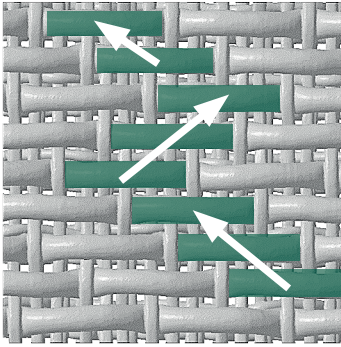

FIGURE 5. TruTrac: Balancing the twills
**Solution:** Break the twill pattern and even out the protruding knuckles. AJ has a patented innovation called TruTrac™ where the twill pattern on the machine side of the fabric is modified. TruTrac creates a perfect balance, with the same number of CD yarn floats going in both directions. TruTrac ensures that when stock is put on or taken off, the forces generated by each set of twills will cancel each other out -- allowing the fabric to guide straight on even the most guide-challenged machines. See Figure 5.